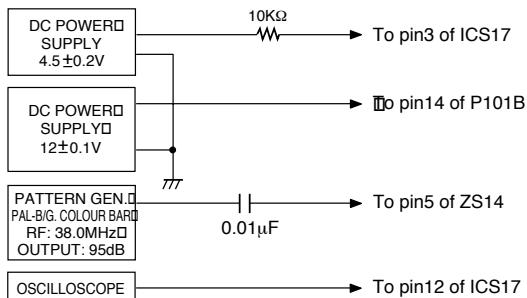

Fig.1: Connection Diagram of Equipment for SIF adjustment
- 1) Connect the measuring equipment to the TV as shown in Fig.1.